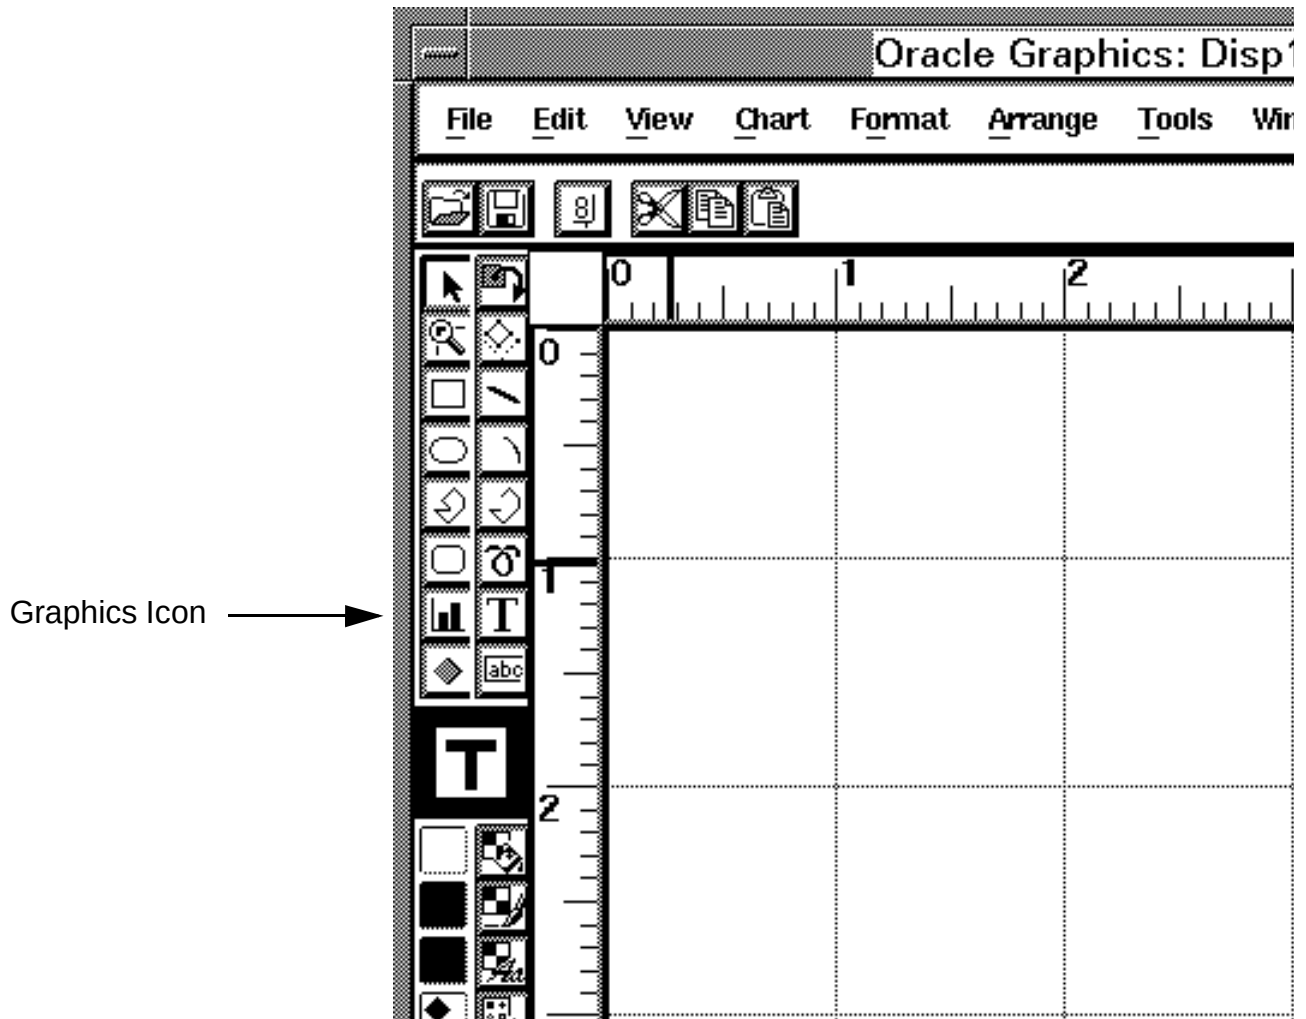

Figure 3-69. Graphics Layout Editor, Graphics Icon
4. Click on the Graphics icon in the Graphics Layout Editor, Figure 3-69. Then drag the cursor to specify the location and size of the chart.